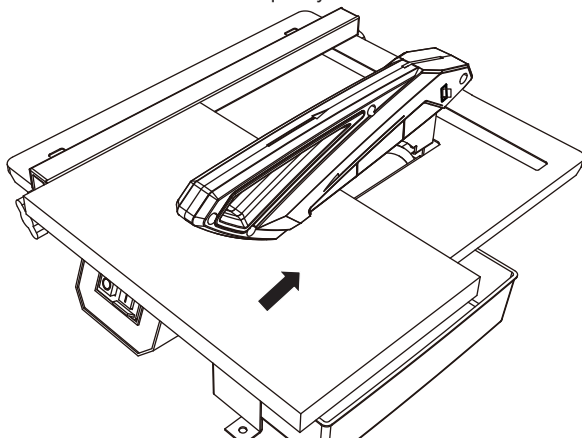

Figure 9
4. MAKING A STRAIGHT CUT (SEE FIG. 9)